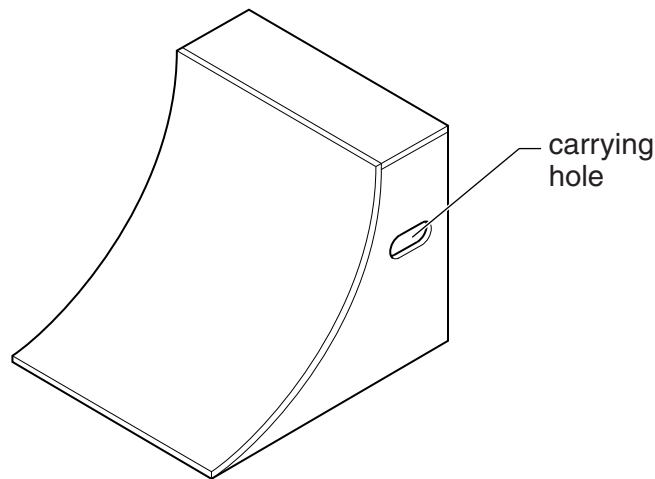

Fig. 2
- 17 Fig. 2 shows a ramp for a skateboard or BMX bike.